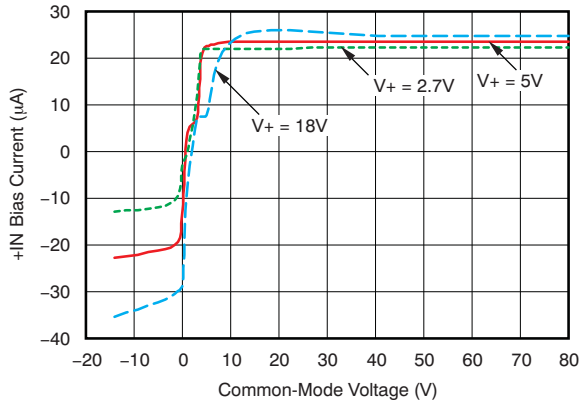

Figure 7. INA283 +IN Bias Current vs Common-Mode Voltage
(1) RTI = referred-to-input.
(2) See typical characteristic graph Figure 7.
(3) The average of the voltage on pins REF1 and REF2 must be between V_{GND} and the lesser of $(V_{GND} + 9\text{ V})$ and V_+ .